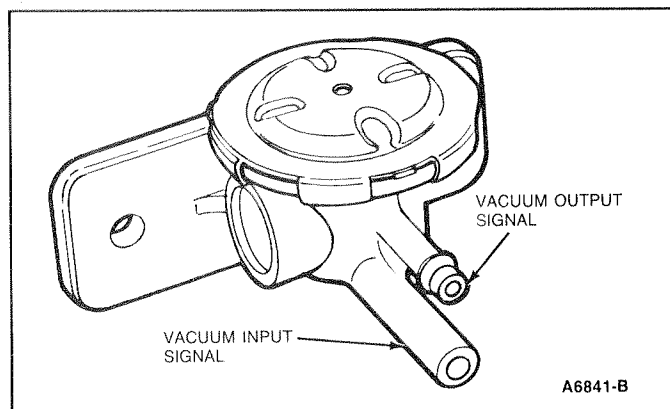

Figure 1 2-Port Vacuum Regulator
The two port vacuum regulator (Figure 1) provides a constant output signal when the input signal is greater than a preset level. At a lower input vacuum, the output equals the input.
1. Remove vacuum line from the barbed output port (Figure 1), and install Rotunda Vacuum Gauge 059-00008 or equivalent.